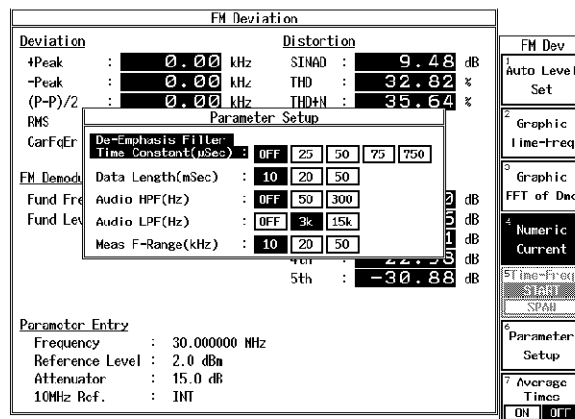

Figure 6-3 Setup of Measurement Parameters for FM Deviation Test
8. On the R3267 Series, set measurement parameters as shown in Figure 6-3.